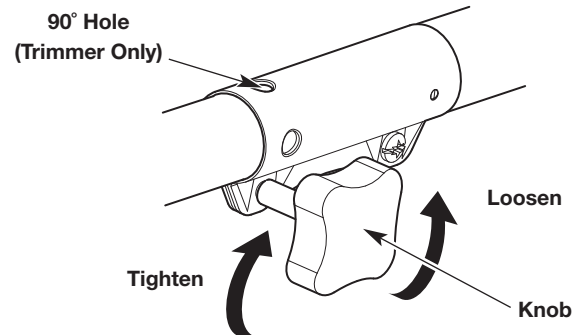

Fig. 8
3. Turn the knob counterclockwise to loosen the coupler (Fig. 8).
6. Turn the knob clockwise to tighten the coupler (Fig. 8).
NOTE: For decorative trimming with a string trimmer attachment, lock the release button into the 90° hole (Fig. 8).
2. Turn the knob counterclockwise to loosen the coupler (Fig. 8).